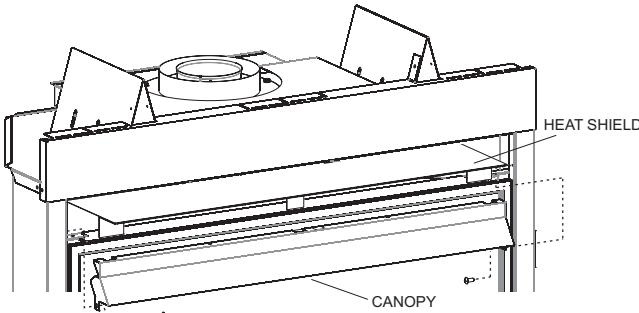

Figure 21
2. Place the canopy above the firebox as shown in **Figure 21**.
3. Secure the canopy with two #8-18 x 1/2 inch pan head screws provided in the hardware pack. **See Figure 21.**